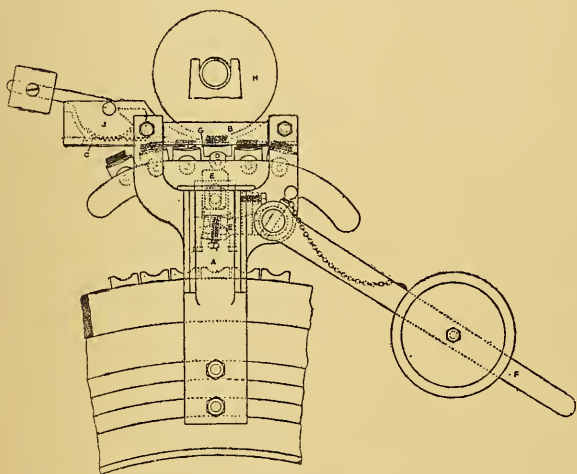

Fig. 9.—Card-Grinding Motion.
**Card-Grinding Motion.**—In ordinary grinding of the revolving flats of carding engines, flats are supported on special facings at their back. This method gives various bevels and length of wires—a very defective principle, which can only be avoided by supporting flats during grinding on their working surface, each flat receiving its angle by the one wedge. This would save the labour of preparing special grinding surfaces at the back of the flats. We give in Fig. 9 an illustration of one of the latest methods of grinding revolving flats.